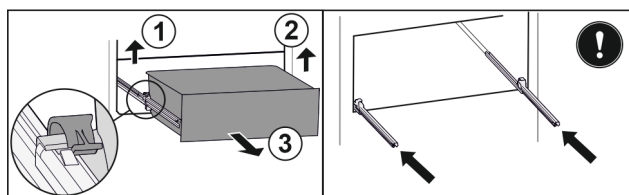

Fig. 206
- Lift left clamp and simultaneously pull drawer forwards on the left. Fig. 206 (1)
- Lift right clamp and simultaneously pull drawer forwards on the right. Fig. 206 (2)
- Remove drawer to the front. Fig. 206 (3)